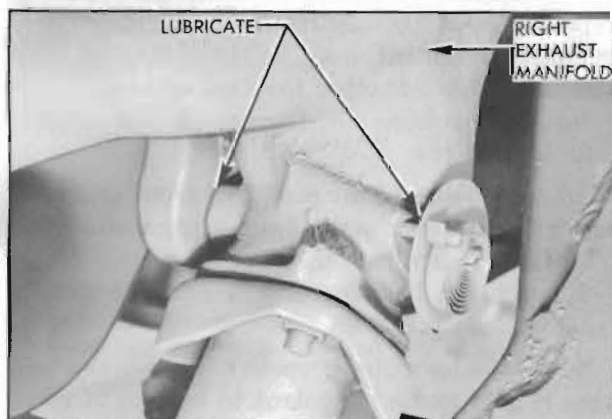

Figure 1-6—Manifold Valve
13. *Manifold Valve Shaft.* Place a few drops of "Buick Heat Trap Lube" on shaft at each end and rotate shaft to work lubricant into bearings. See figure 1-6. Buick Heat Trap Lube is available through Buick Parts Warehouses under Group 8.800.